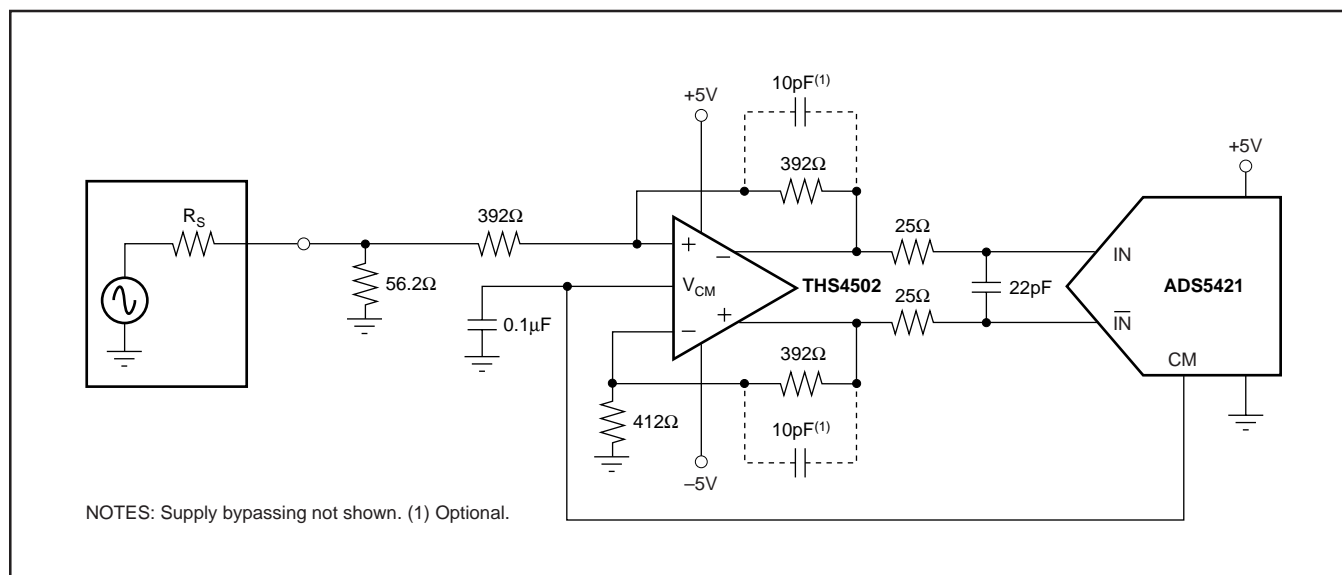

FIGURE 3. Using the THS4502 Differential Amplifier (Gain = 1) to Drive the ADS5421 in a DC-Coupled Configuration.
The following section provides some principal circuit suggestions on how to interface the analog input signal to the ADS5421. Applications that have a requirement for DC-coupling a new differential amplifier, such as the THS4502, can be used to drive the ADS5421, as shown in Figure 3. The THS4502 amplifier allows a single-ended to differential conversion to be performed easily, which reduces component cost. In addition, the V_{CM} pin on the THS4502 can be directly tied to the common-mode pin (CM) of the ADS5421 in order to set up the necessary bias voltage for the converter inputs. As shown in Figure 3, the THS4502 is configured for unity gain. If required, higher gain can easily be configured, and a low-pass filter can be created by adding small capacitors (e.g., 10pF) in parallel to the feedback resistors. Due to the THS4502 driving a capacitive load, small series resistors in the output ensure stable operation. Further details of this and other functions of the THS4502 may be found in its product